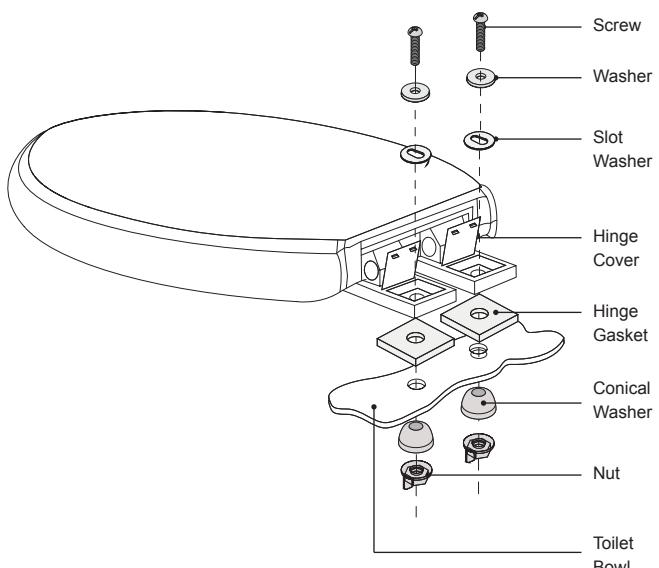

Figure 15
- ① Carefully remove the old seat (if applicable).
- ② Install the toilet seat onto the ceramic bowl (as illustrated to the right) using the supplied hardware.
- ③ Center the toilet seat over the ceramic bowl, then tighten each mounting screw with a slot head screwdriver (Figure 15).
- ④ Snap hinge covers down over the mounting screws to complete installation.